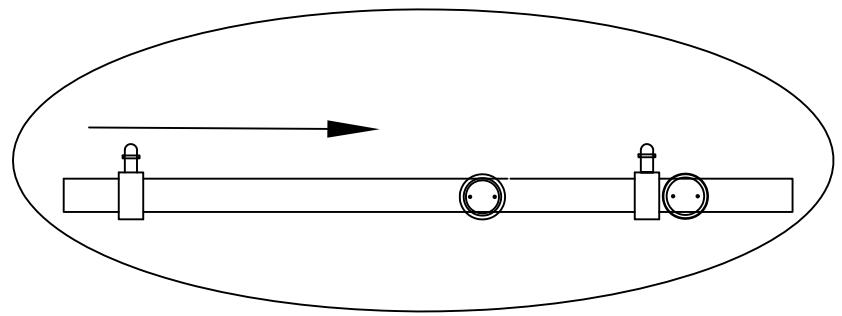

Fig. 7
7. Slide Door Stopper (1) onto end of Top Rail (2). The bumpers on Door Stopper (1) should be positioned on the top of Top Rail (2) for final installation. Note: One door stopper comes pre-assembled on top rail between fixed glass bolt assembly. See Fig.7 for details.